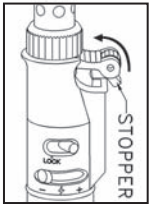
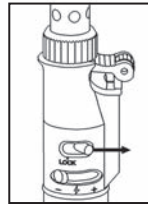

Figure 2
Figure 5
1. See figures 2 and 3 to ignite the Dremel Versatip.
When the ignition switch is released, the flow of gas is automatically shut off, causing the Dremel Versatip to stop and slowly cool down. To continuously operate the Dremel Versatip, follow the steps in figures 2, 3 and 4. To switch the Dremel Versatip off, let go of the ignition switch and move the lock button to the right (figure 5). This will immediately stop the flow of butane gas.